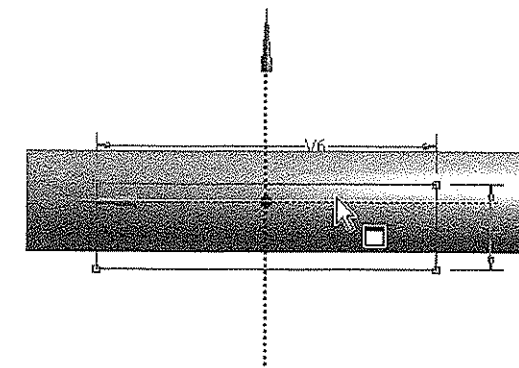

Figure 5-46 Selecting the horizontal axis for applying Symmetric constraint
20. Click on the horizontal axis, as shown in Figure 5-46, as the axis of symmetry; you are prompted to select a point or a 2D edge to apply Symmetric constraint.